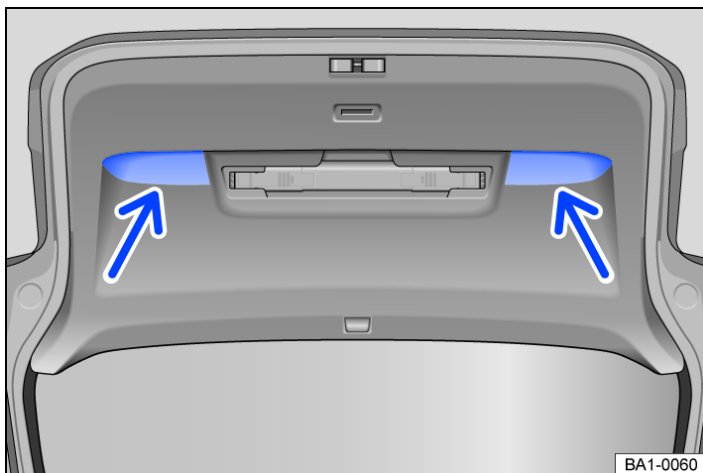

Fig. 2 Open boot lid: handle recesses for closing the boot lid.
- Pull the boot lid down with force by the handle in the interior trim → Fig. 2 so that it engages in the lock → .